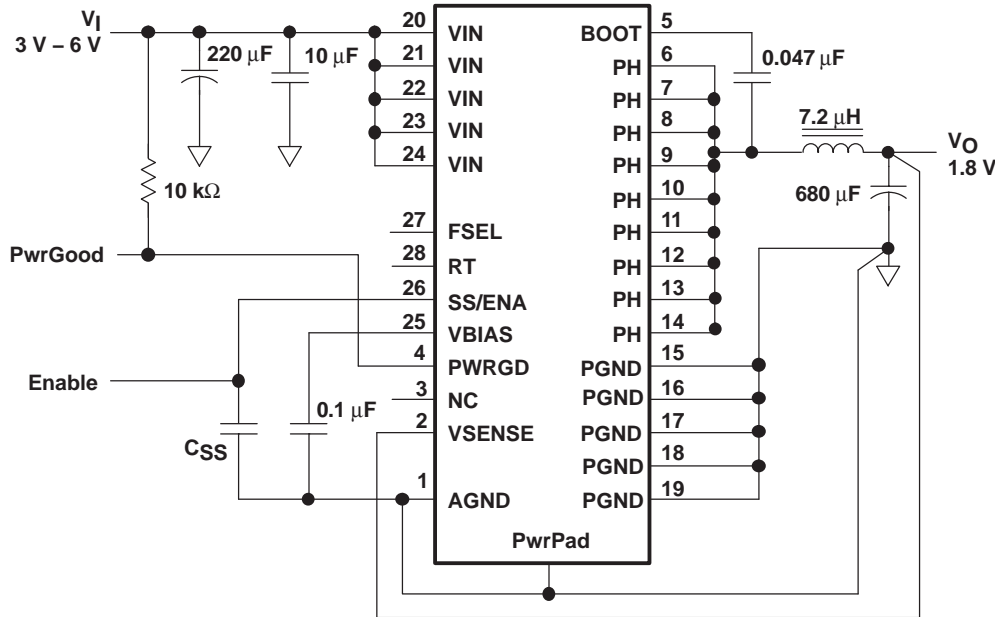

Figure 10. Application Circuit
(1) Specified by design
(2) Static resistive loads only
(3) Tested using circuit in Figure 10.
⁽³⁾ Tested using circuit in Figure 10.
Figure 10 shows the schematic diagram for a typical TPS54614 application. The TPS54614 (U1) can provide greater than 6 A of output current at a nominal output